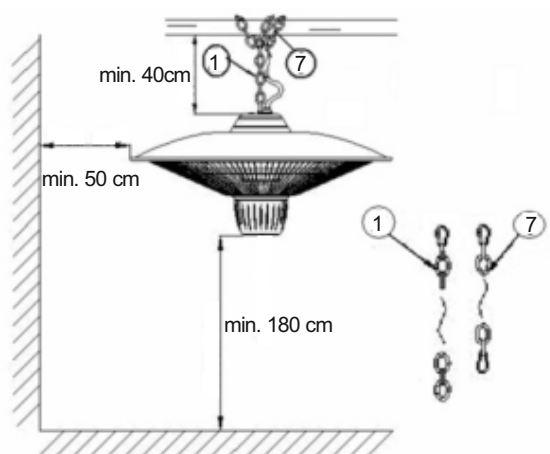

Fig. 4B
I. Mounting on the frame elements (eg on the tent frame) - figure 4B